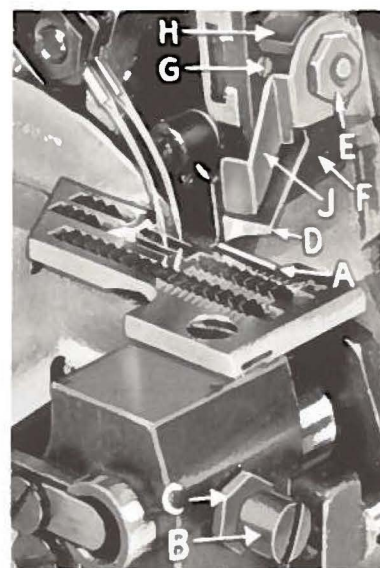

Fig. 13
Replace lower knife holder assembly. Lower knife (A, Fig. 13) should be set with cutting edge flush with throat plate surface. Adjustments are made with hexagonal head screw which holds lower knife. Lower knife is spring pressed against upper knife, so no lateral adjustment is necessary when width of trim is changed.
Replace upper knife assembly. Clamp upper knife (D, Fig. 13) in position, setting nut (E) to hold clamp (F) in its most clockwise position against upper knife. Upper knife chain guard (J) should be positioned so that the guarding section is approximately $\frac{1}{64}$ inch behind the cutting edge and in contact with the top surface of the upper knife.